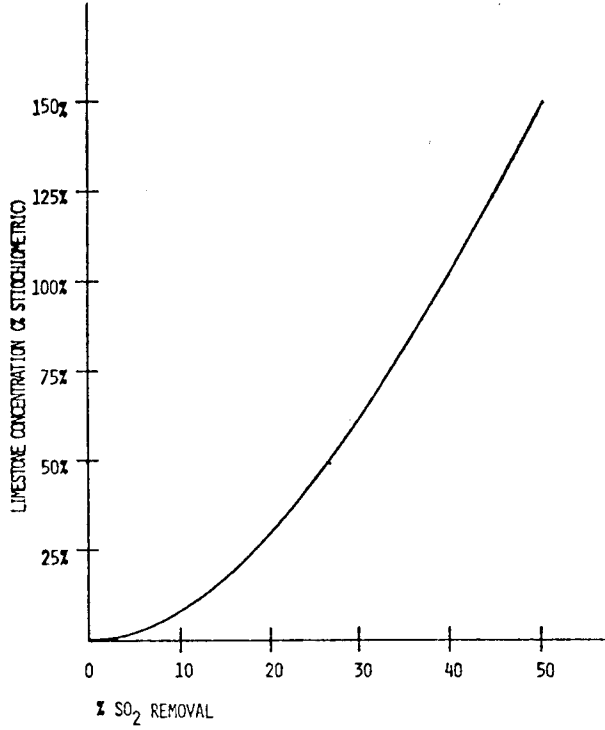

Fig. 3 Effect of limestone on SO₂ removal
(11). In the analysis, gas is passed through 150 ml of 3 percent H_2O_2 solution which is titrated with 0.16 NaOH. Any oil in the H_2O_2 is first removed by ether. Limestone concentrations were varied from approximately 0.38 to 1.2 stoichiometric calcium oxide/sulfur ratios. The results are summarized in Fig. 3.